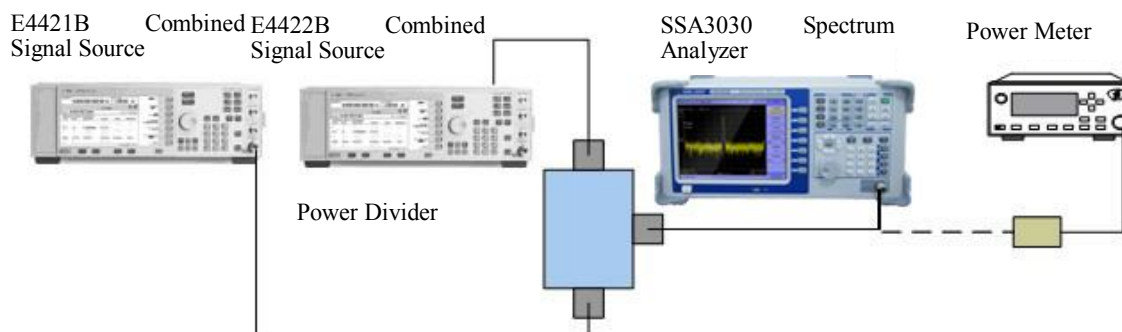

Fig. 6-9 Test Connection Diagram of Three-order IMD
The testing block diagram is shown in Fig. 6-9.
- (1) Connect the equipment as shown in Fig. 6-9 and connect the power probe to the combination S-port of power divider.
- (2) Reset E4421B and E4422B combined signal generators, and set as follows: both their powers are -30dBm, the frequency of E4421B signal generator is 1200MHz, the frequency of E4422B signal generator is 1200.05MHz, and the RF switch is in the “OFF” mode.
- (3) Reset SSA3030 and set it as follows:
- (4) Place E4421B signal generator in the mode of “RF ON”, and adjust the power to -30dBm.
- (5) Take off the power probe from power divider, and use the connecting cable to directly connect the combination S-port of power divider to the RF input terminal of SSA3030.
- (6) Set the RF switch of E4422B combined signal resource to the “ON” mode, and adjust the power level to make two signals display the same amplitude.